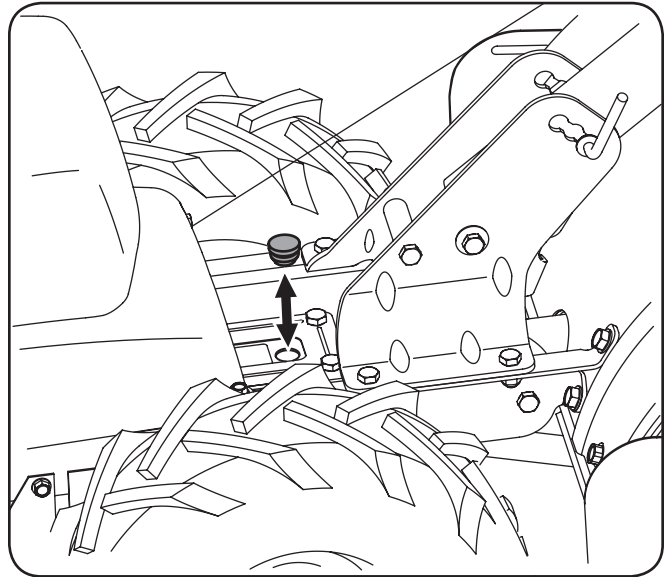

Figure 3-6
2. Remove the oil fill plug from the transmission housing cover and locate the main drive shaft situated inside the housing. See Fig. 3-6.